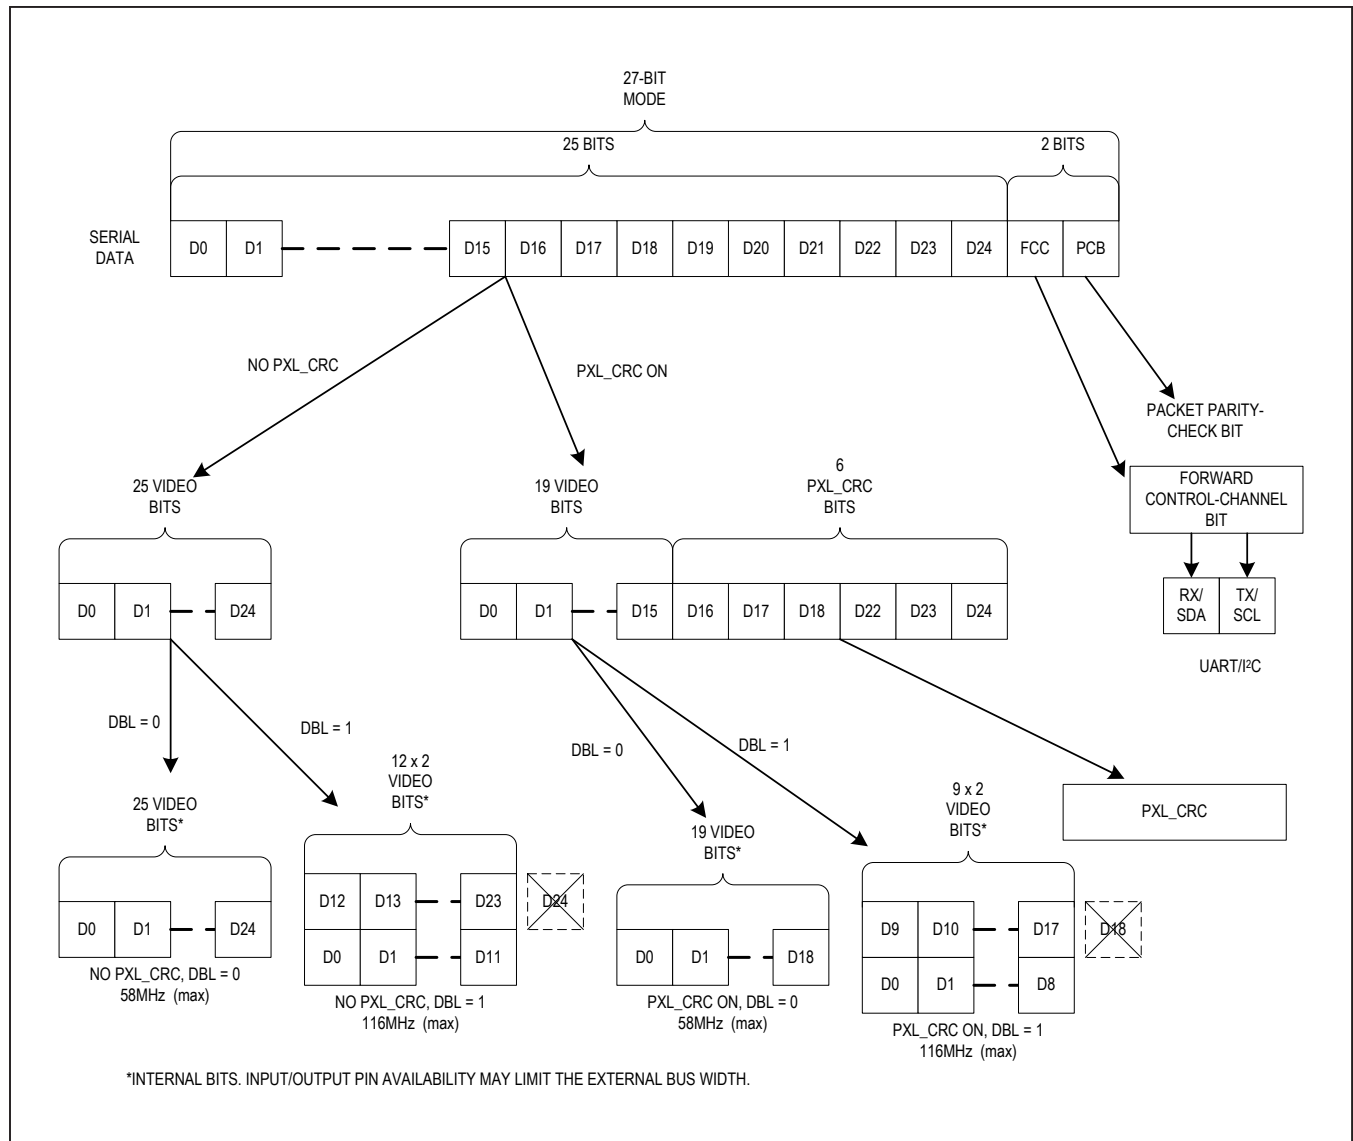

Figure 14. 27-Bit High-Bandwidth Mode Serial-Data Format
- **27-Bit High-Bandwidth Mode (Figure 14)**